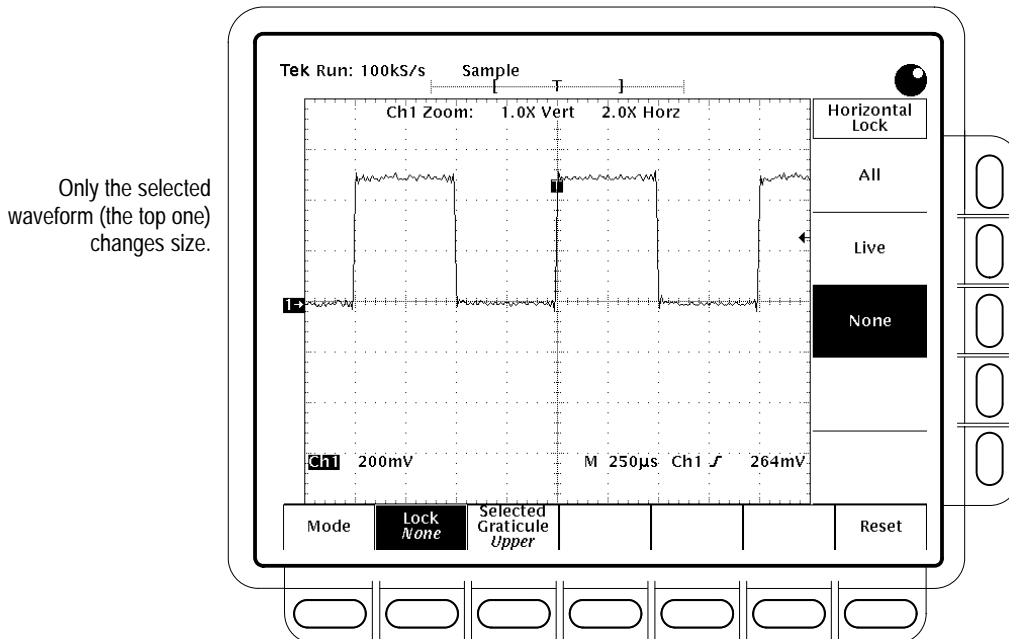

Figure 3–25: Zoom Mode with Horizontal Lock Set to None
The Zoom readout appears at the top of the display when zoom is on. (See Figure 3–25 on page 3–56.) Dual-window (preview) mode does not display the Zoom readout.
*None* — only the waveform currently selected can be magnified and positioned horizontally (Figure 3–25).
1. Press **Zoom** → **Mode** (main) → **Preview** (side). Note that the oscilloscope displays the box-enclosed area on the waveform as magnified in the top graticule. (See Figure 3–26.)